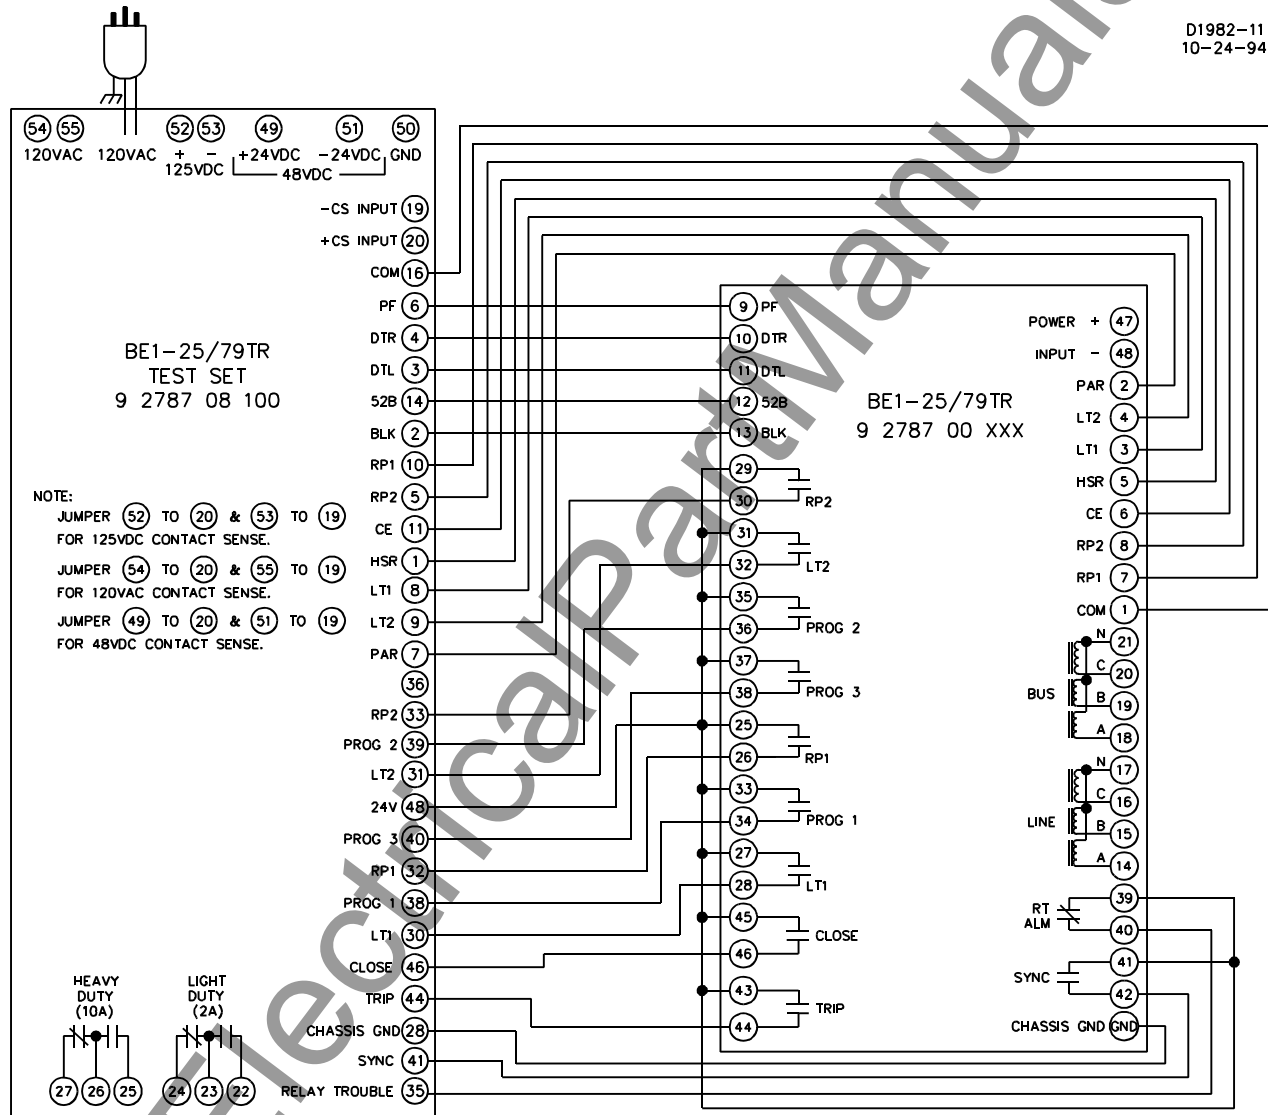

Figure 5-4. Test Setup Diagram
Testing BE1-25/79TR relays requires that they be isolated from the controlled system. A bench-test setup that would be appropriate is illustrated in Figure 5-4.
- Step 1. Connect the test circuit as shown in Figure 5-4. (Connect the appropriate contact sense input voltage to terminals 19 and 20 on the test set.)